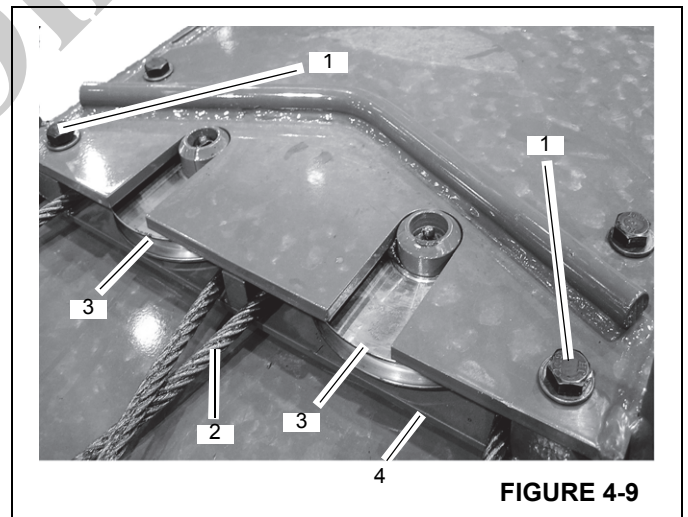

FIGURE 4-9
- At the top front of the inner mid, remove the four bolts and washers (1) securing the synchronizing cable (2) sheave assembly (3). Lay the assembly with cables on top of the outer mid (4) (Figure 4-9).